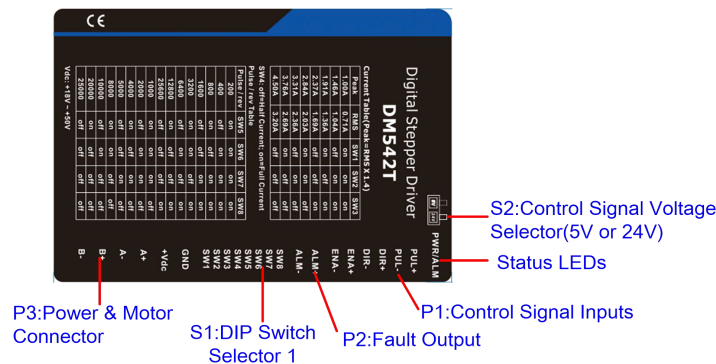

Figure 2 Connectors, DIP switches, and LED locations
PUL+	Pulse and Direction Connection: (1) Optically isolated, high level 4.5-5V or 24V, low voltage 0-0.5V (2) Maximum 200 KHz input frequency (3) The width of PUL signal is at least 2.5 μ s, duty cycle is recommended 50% (4) DIR signal requires advance PUL signal minimum 5 μ s in single pulse mode (5) The factory setting of control signal voltage is 24V, must need to set S2 (figure 2) if it is 5V
The DM542T(V4.0) can accept differential or single-ended control signals (pulse, direction, and enable) in open-collector or PNP connection through the P1 connector (figure 2). It is recommended to add an EMI line filter between the power supply and the drive to increase noise immunity for the drive in interference environments.
- (1) ENA signal is no-connected as default;
- (2) Control signal amplitude is 24 V as default. If it is 12 V, please set the S2 (Figure 2) selector switch to 5 V first, then connect 1KΩ resistor; If it is 5V, please set the S2 to 5V.
The second 1-bit selector is located on the top (S2 in figure 2), used to configure the voltage of control signals. For the safety of optically coupled, the factory setting is 24V, which no need to connect 2K resistors like the old drives, making it easier to use. When the voltage of the control signal is 5V, the S2 must be set to 5V, otherwise, the motor won't work.